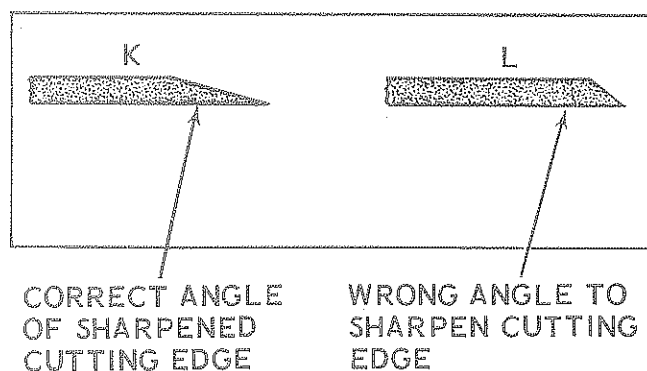

Figure 8
8. Check the mower blades periodically for nicks or dullness. Damaged or dull blades can cause a shattered rather than clean cut and brown areas may develop. Reference "K", Figure 8, illustrates the correct angle at which to resharpen the blade cutting edges. If the cutting edge is sharpened at a blunt angle, Reference "L", the grass may also be shattered rather than cleanly cut.